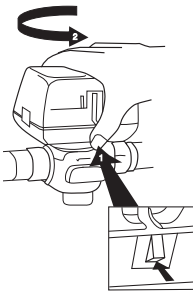

Fig. 2. Latch Mechanism to detach Actuator
1. The actuator head is automatically latched to the valve. Align the coupling hole in the bottom of the actuator with the valve stem. Press the actuator down towards the body with moderate hand force and turn the actuator counter-clockwise by 1/8 turn (45 degrees) to line up the actuator with the piping. The latch will click when engaged. See Figure 2.